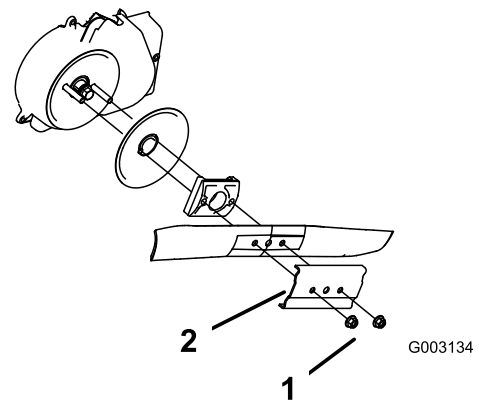

Figure 44
3. Remove the 2 blade nuts and the stiffener (Figure 44).
4. Remove the blade (Figure 44).
5. Install the new blade (Figure 44).